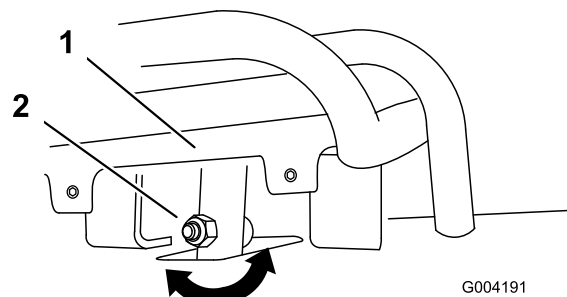
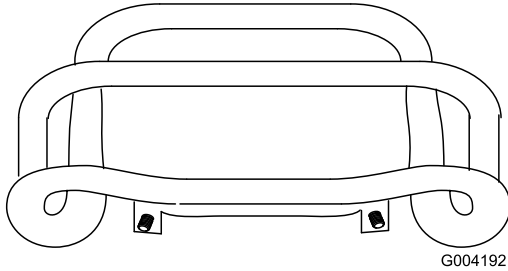

Figure 55
Figure 56
4. If the front of the traction control does not rest square and flush with the reference bar, loosen the flange nut and bolt in the stem of the traction control (Figure 55).
- Adjust the traction control so that it rests flush against the reference bar when you pull it straight back (Figure 55 and Figure 56).